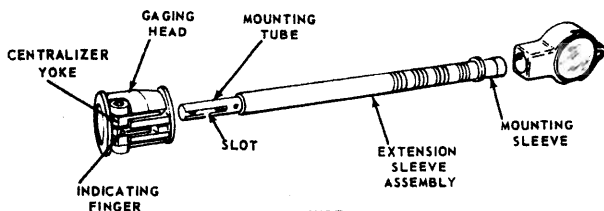

FIGURE 7
1. See Figure 7. Align Slot of replacement Extension Sleeve Assembly with Indicating Finger in Gaging Head and slide Mounting Tube all the way into Gaging Head. While tightening Gaging Head Retaining Screw, apply enough end pressure against Gaging Head to overcome spring tension of Extension Sleeve Assembly.